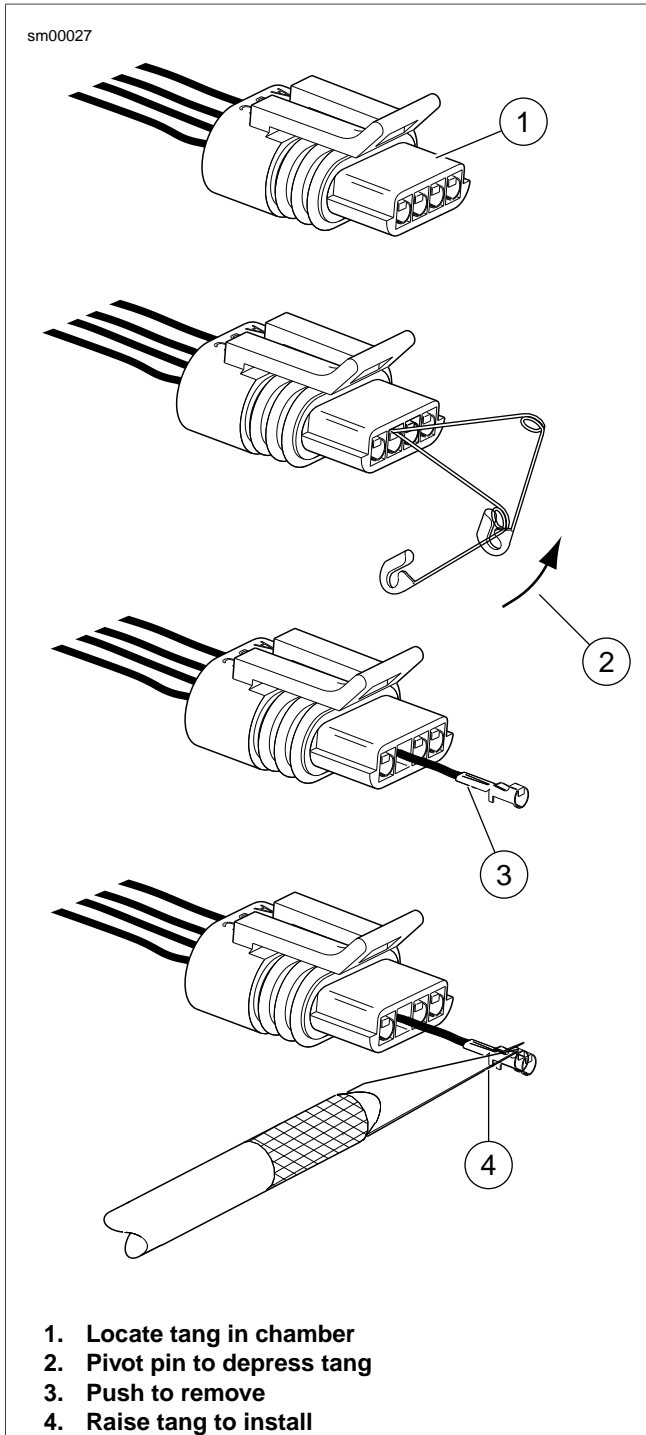
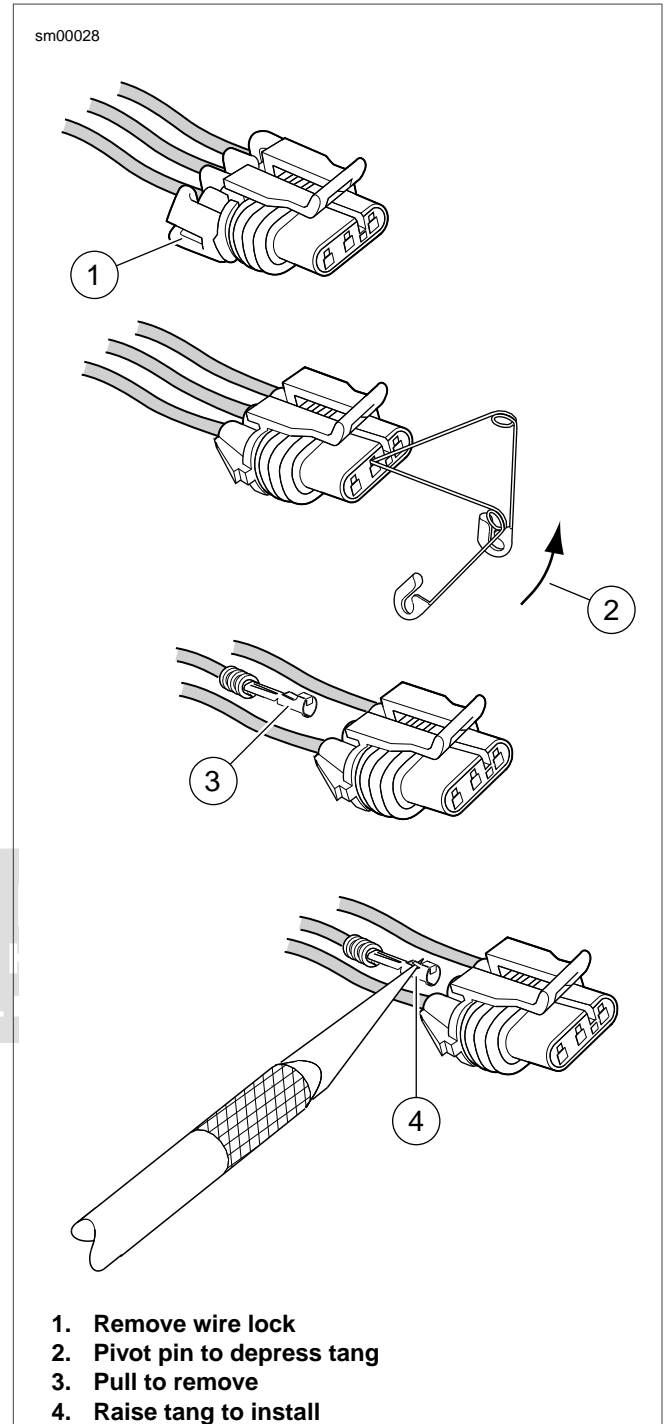

Figure A-19. 150 Metri-Pack Connector: Pull-to-Seat
Figure A-20. 150 Metri-Pack Connector: Push-to-Seat
1. See Figure A-19 for pull-to-seat connector or Figure A-20 for push to seat connector. Remove wire lock (1) from wire end of socket housing on push-to-seat type connectors.
1. See Figure A-19 for pull-to-seat connector or Figure A-20 for push to seat connector. Using a thin flat blade, like that on a hobby knife, carefully bend the tang outward away from the terminal body.
For push-to-seat: See Figure A-20. Seat wires in separate channels of wire lock and then push channels **inside** chambers at wire end of socket housing. Fully installed, slot on each side of wire lock engages ear on socket housing.